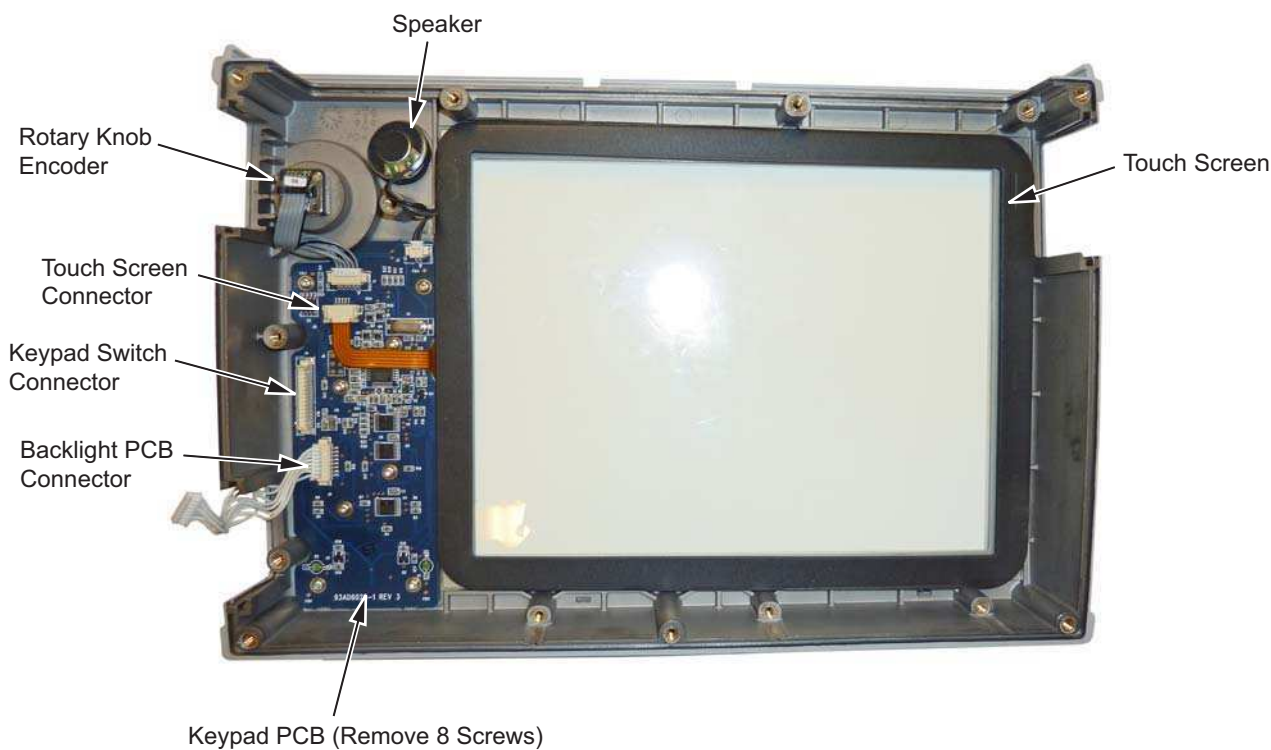

Figure 7-12. Front Panel Keypad Bezel
4. Remove the 8 screws and the cable connectors to remove the Keypad PCB (Figure 7-12). The Rubber Keypad is located under the Keypad PCB.